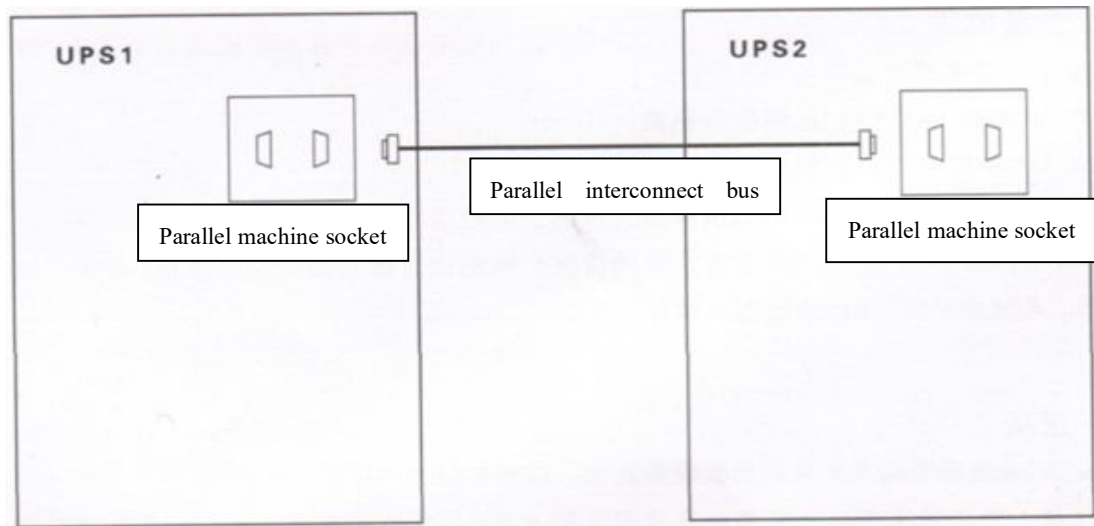

Figure 1
(1) System connection (UPS with parallel operation function, this clause applies): see Figure 1
- b. Open the UPS outer package to see a square hole in the back or front of the UPS cabinet with two 25-pin sockets (See Figure 1). Pass the parallel interconnect cable through the terminal slot, and insert the plugs at both ends of the parallel interconnect into one of the square holes above the two UPS cabinets, and tighten the screws on both sides of the plug with a small screwdriver;